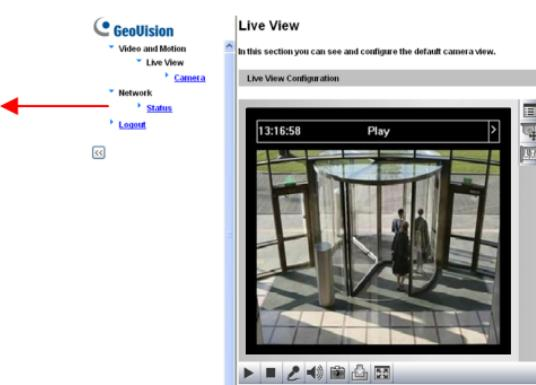

Figure 3-2
4. Click **Apply**. A video image, similar to the example on Figure 3-2, is now displayed in your browser.
The GV-IPCAM H.264 can process one video stream in two different codec and image settings. In the Administrator mode, both streams are available. Click **Streaming 1** or **Streaming 2** in the left menu to access the live view. In the Guest mode, only one stream is available, as shown in *Figure 3-2*.